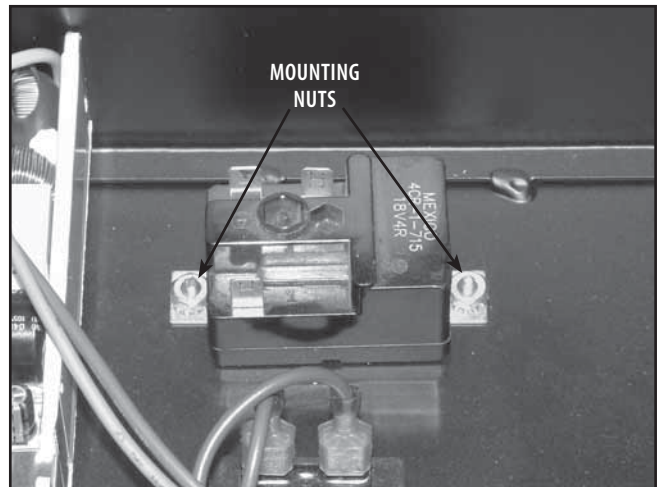

FIGURE 5.7
4. With the 5/16 in Socket and Ratchet remove the two Starter Relay Mounting Nuts and remove the Starter Relay from the Electrical Panel. See Figure 5.7.